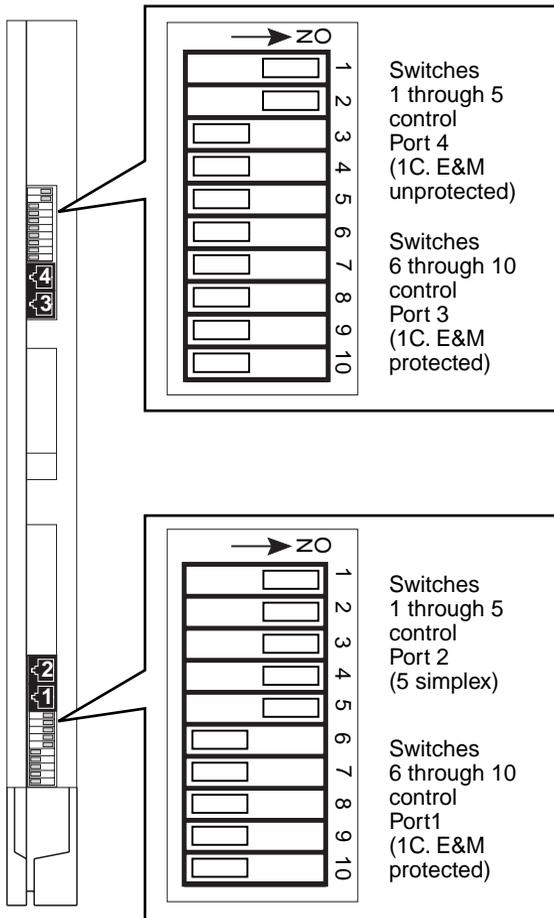

Figure 2-11. 400EM Module Sample Dip Switch Settings for Signaling Types 1C and 5
- ▶ **1. For each 400EM tie line/trunk module, for jacks numbered 1 through 4 in Figure 2-11, check Form 3c, Incoming Trunks: Tie, for E&M signaling type.**
Set the dual in-line packaging (DIP) switches on the front of the 400EM Tie Trunk module according to the E&M signaling type settings listed in Table 2-4 on page 2-36 and Table 2-5 on page 2-37 and shown in Figure 2-11 on page 2-38. The default E&M signal does not require any adjustments in the DIP switches.
During installation of 400EM (Tie Trunk) modules, refer to Table 2-4 and Table 2-5, and to Figure 2-11 on page 2-38 for the correct DIP switch settings for varying signaling protocols.